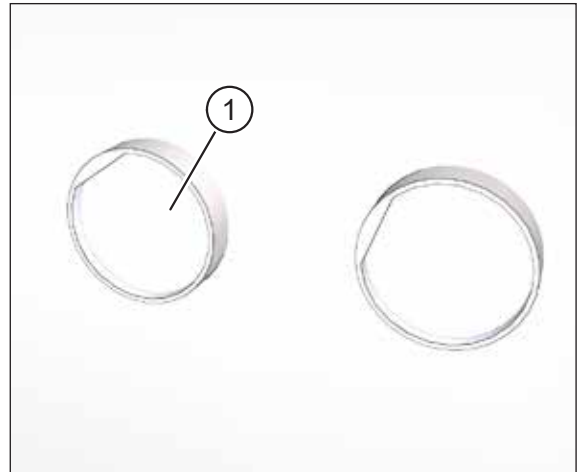

Fig. 69: Installation kit plastered on the outside
- ▶ Remove the two protective sleeves (item 1 in Fig. 69).